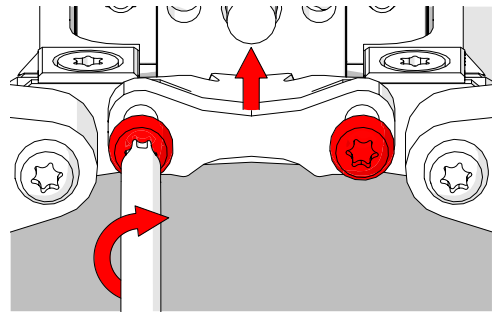

Fig. 43 - Lift setup tab and tighten screws
13. Lift the setup tabs of the scanner and tighten the screws (Fig. 43).